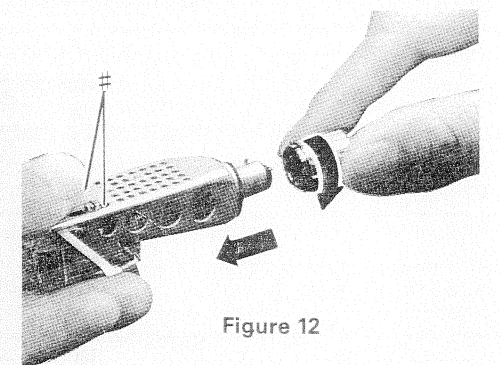

Figure 12
- Separate the headshell from the arm to the arrow direction and remove the two screws marked (#) as shown in figure 12.